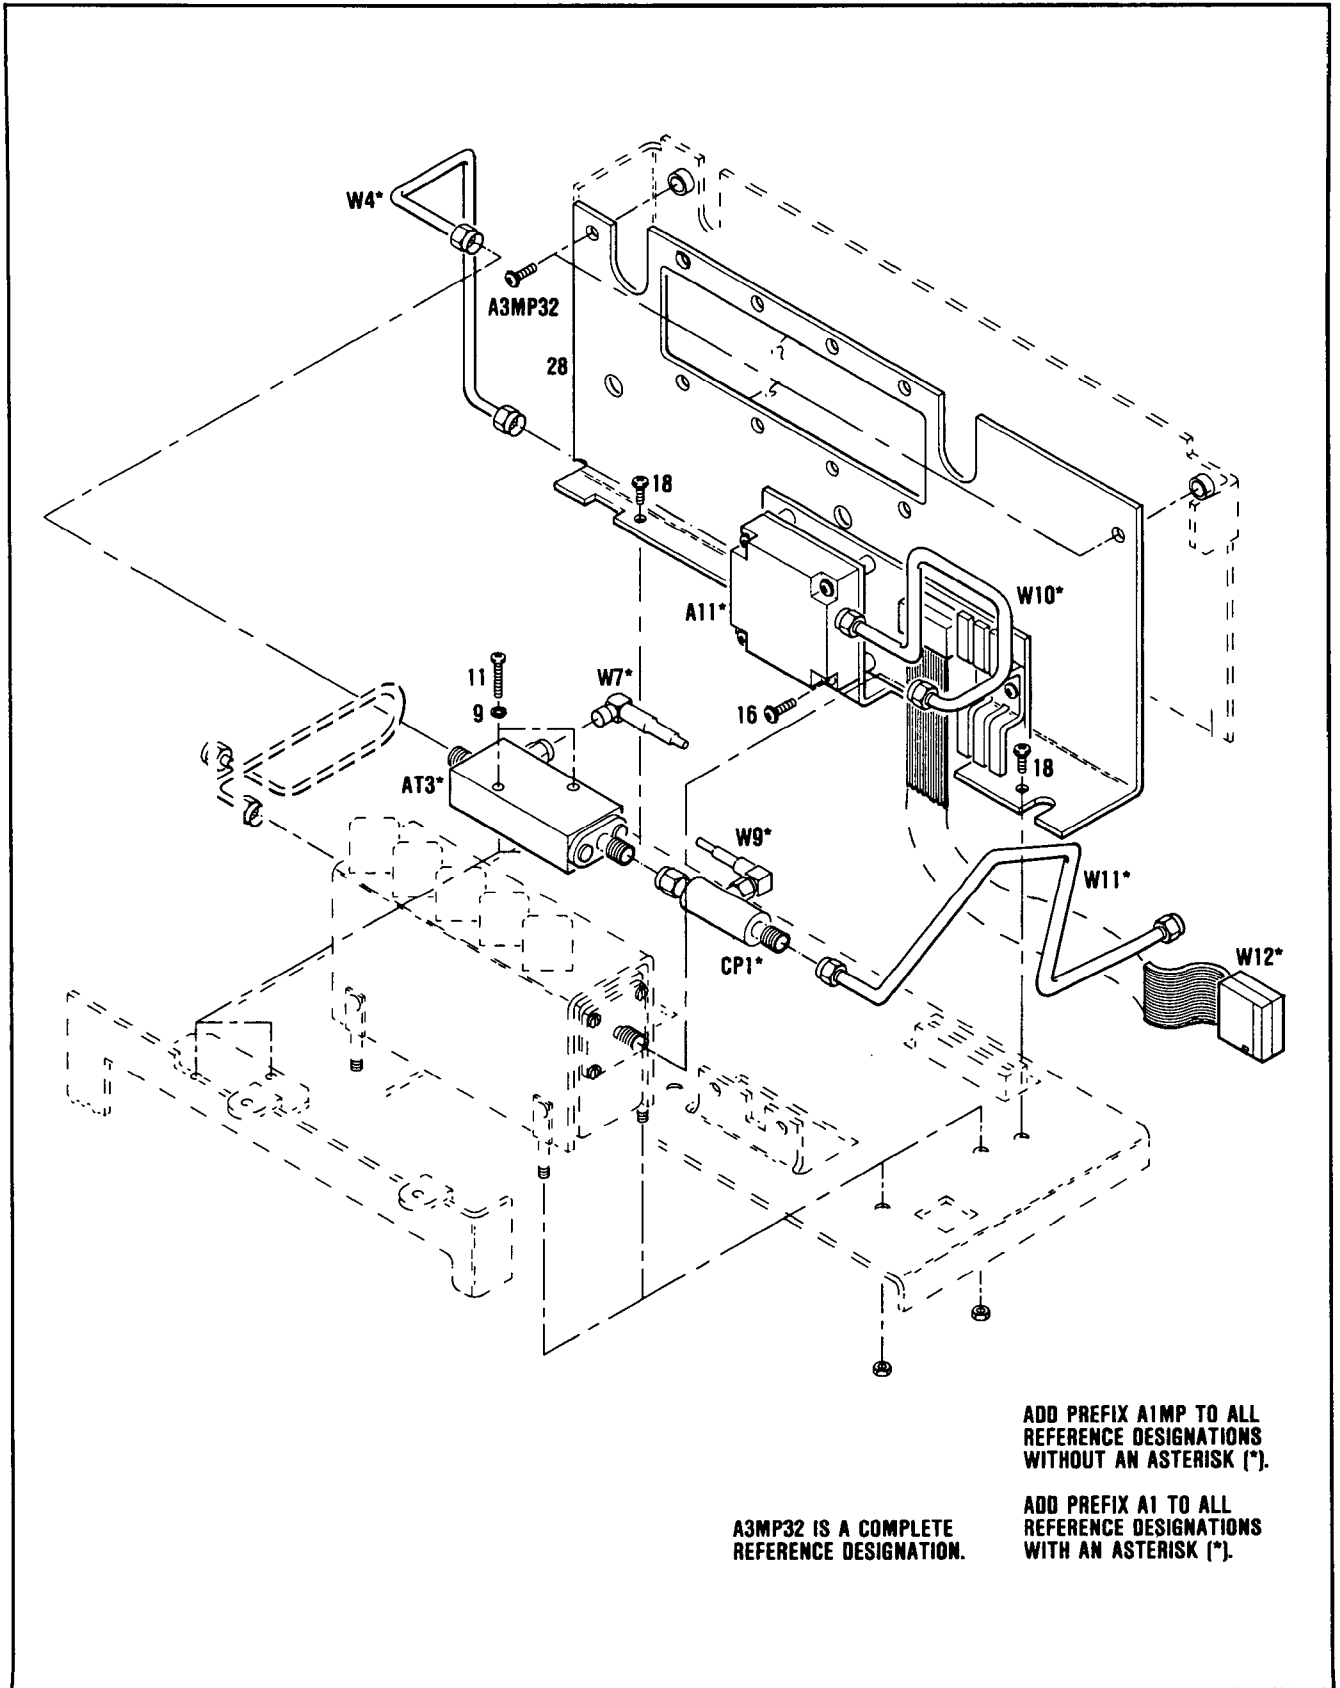

Figure 8-47. Bias Tee
19. Set the LINE switches to OFF then remove the bias tee A1CP1 (see figure 8-47). Using the DVM, measure the resistance between: